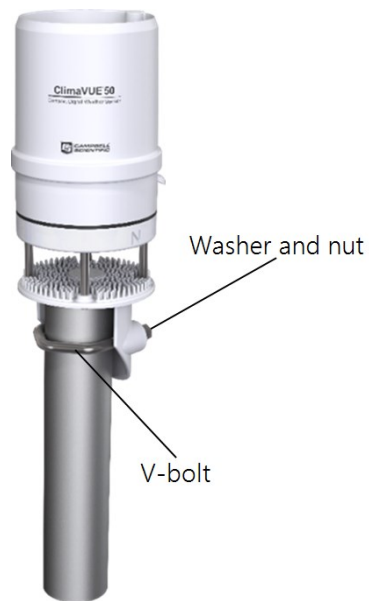

FIGURE 7-2. ClimaVUE 50 mounted to a pole with V-bolt and nuts
- Loosely mount the ClimaVUE 50 to the tripod mast, CM300-series pole, or mounting tube by using the V-bolt, washers, and nuts (FIGURE 7-2 (p. 16)).